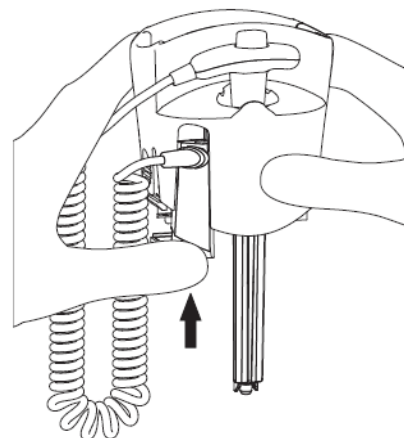

Figure 66: Changing Temp Probe
- 5) Then slide the connector up into the slot pressing the bottom of the connector (refer to Figure 66).